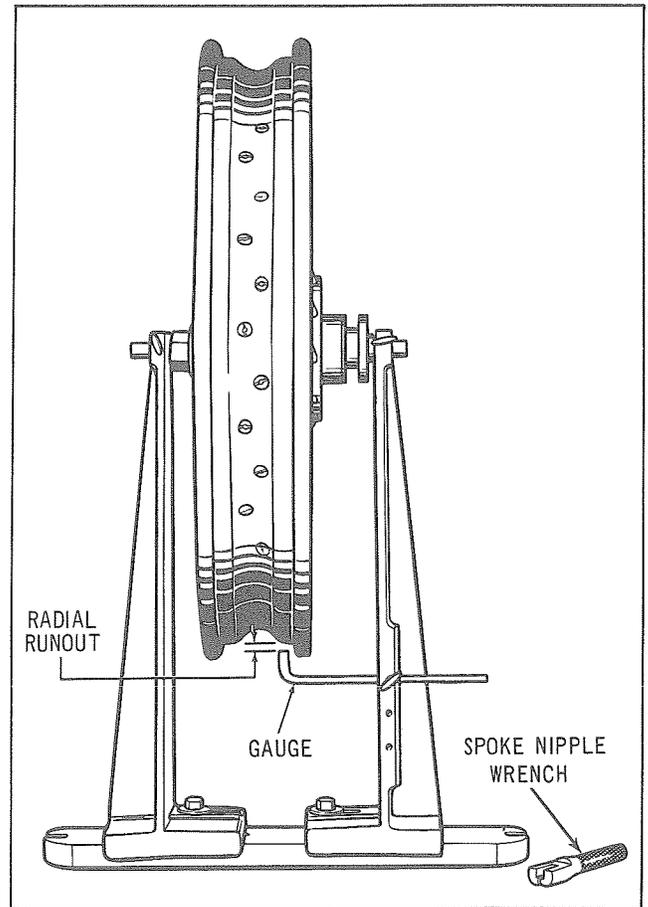

Figure 2C-18. Truing Rim Concentric with Hub
4. Front and Rear Wheel: Check rim for concentricity, centering sideways with hub and for running true sideways (Fig. 2C-17 and 2C-18). Centering rim sideways must be done as one operation. Rim must be properly centered sideways in relation to hub for correct alignment and "tracking" of wheels.
Figure 2C-19 and 2C-19A show method of using a straight edge to determine correct sideways centering of wheel rim. If rim is too close to straight edge, loosen all nipples on brake side and tighten all nipples on opposite side same amount. If rim is too far from straight edge, reverse operations. Lay straight edge across brake side as shown and measure distance from straight edge of rim. When rim is correctly centered, this distance will be as shown for each wheel listed.